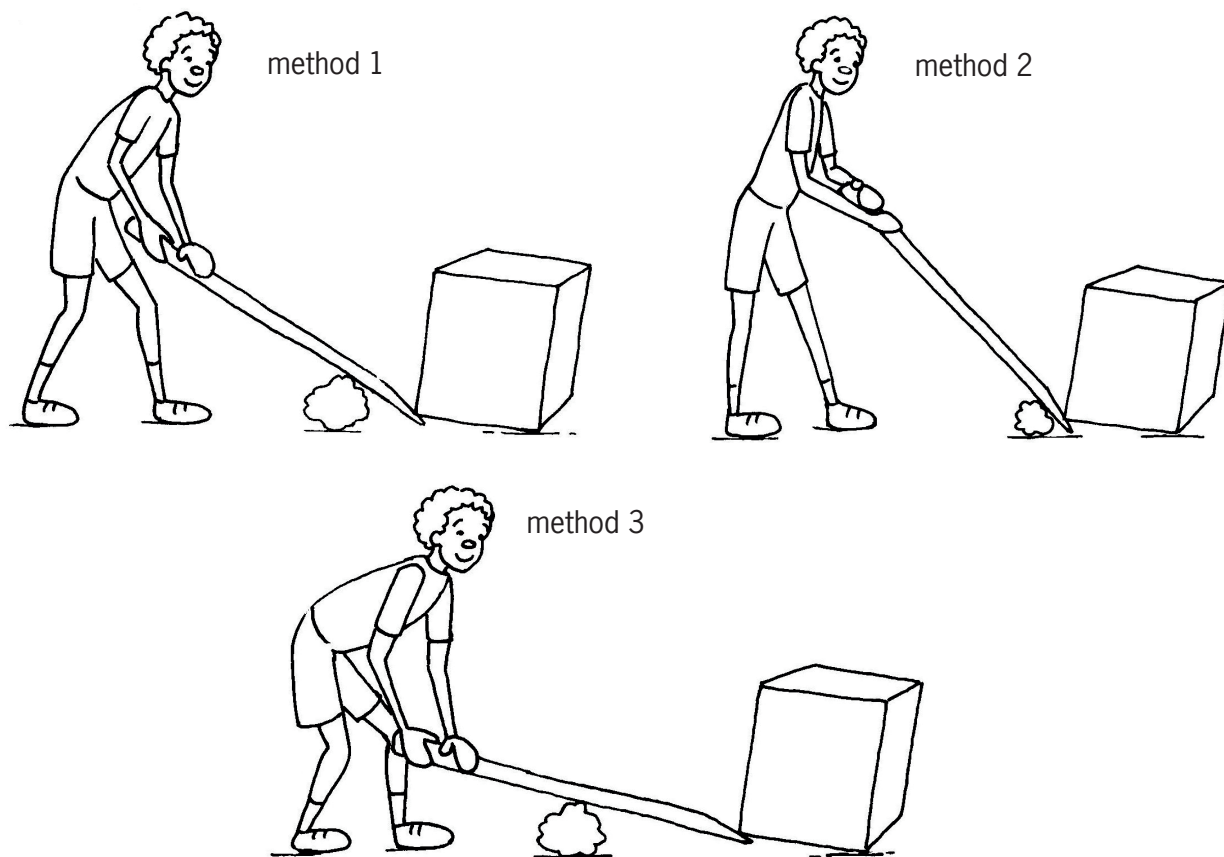

Figure 4
5. Have another look at Figure 4 of this chapter. Which method gives Tom the biggest mechanical advantage when he uses the lever?